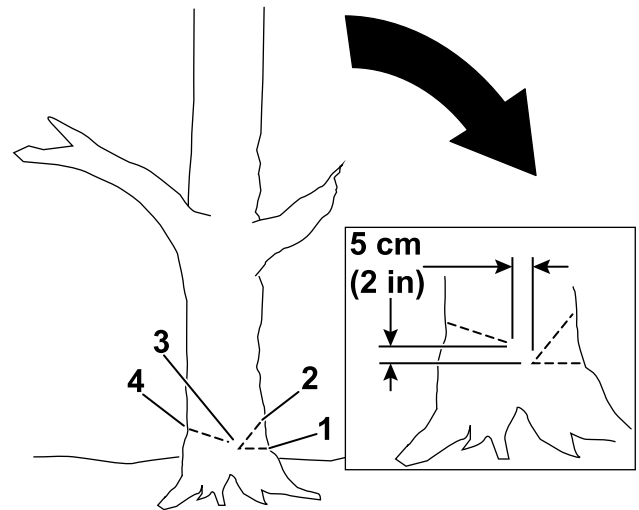

Figure 17
4. Make the first cut a third of the way through the tree diameter on the side where you want the tree to fall (Figure 17).
5. Make a second cut to form a notch, starting the cut at least 5 cm (2 inches) above and away from the first cut (Figure 17).
6. Make the back cut from the opposite side of the notch and about 5 cm (2 inches) higher than the bottom of the notch as shown in Figure 17.
Important: Stop the third cut 2.5 to 5.0 cm (1 to 2 inches) from the notch to form a hinge between the cuts (Figure 17), which keeps the tree from falling in the wrong direction or twisting as it falls.
Note: As the back cut nears the hinge (Figure 17), the tree should begin to fall.